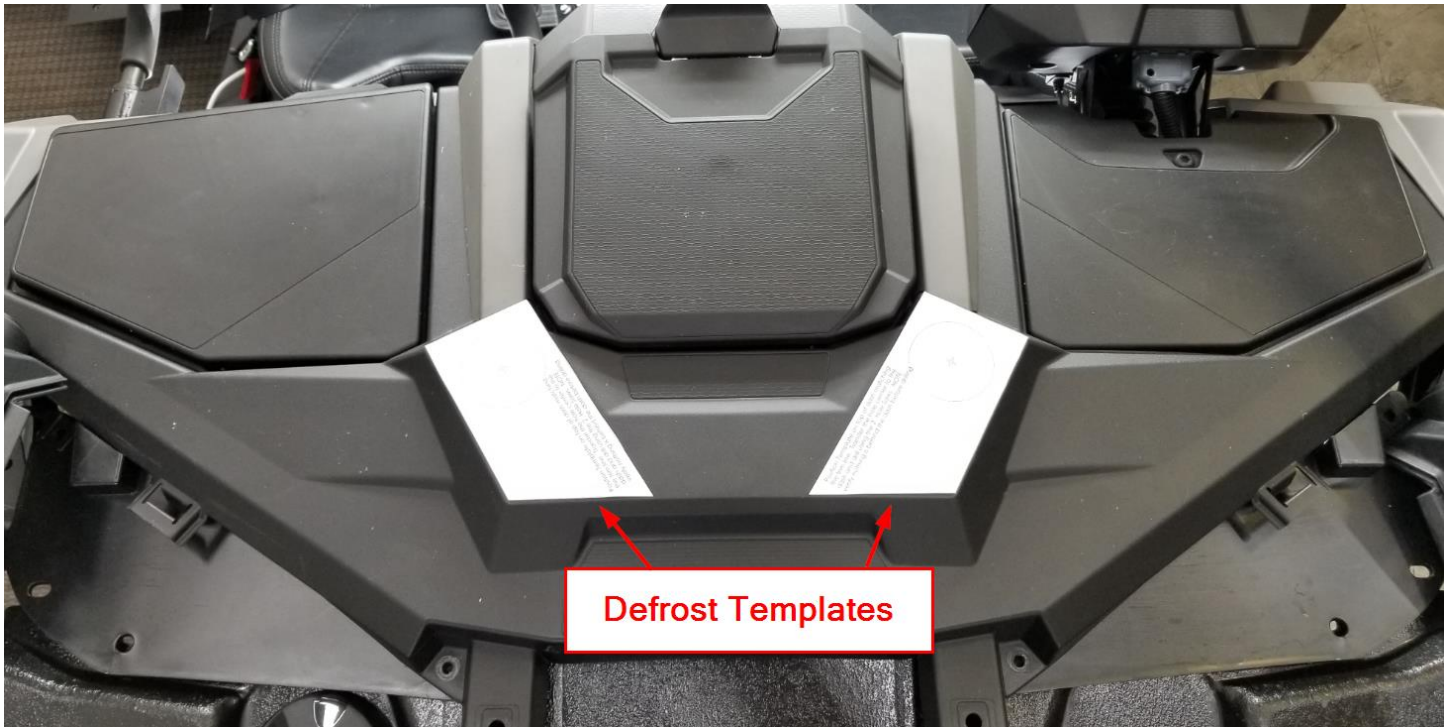

Figure 1
- Using the Defrost Template, cut out the two templates and position them as shown in Figure 1. Transfer the hole centers to the plastic dash and drill defrost vent holes using the included 54mm Hole Saw and Pilot Bit. Debur as necessary.